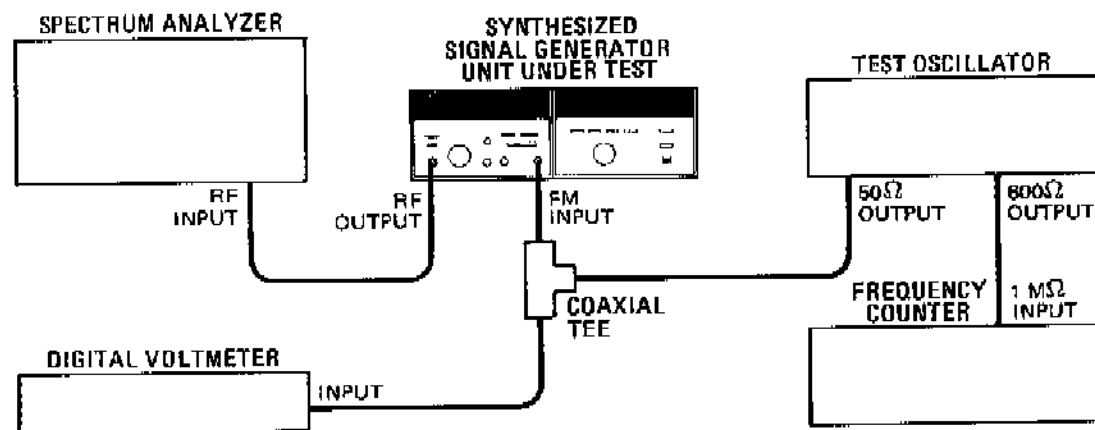

Figure 5-16. FM Adjustments Test Setup
- Connect the equipment as shown in Figure 5-16.